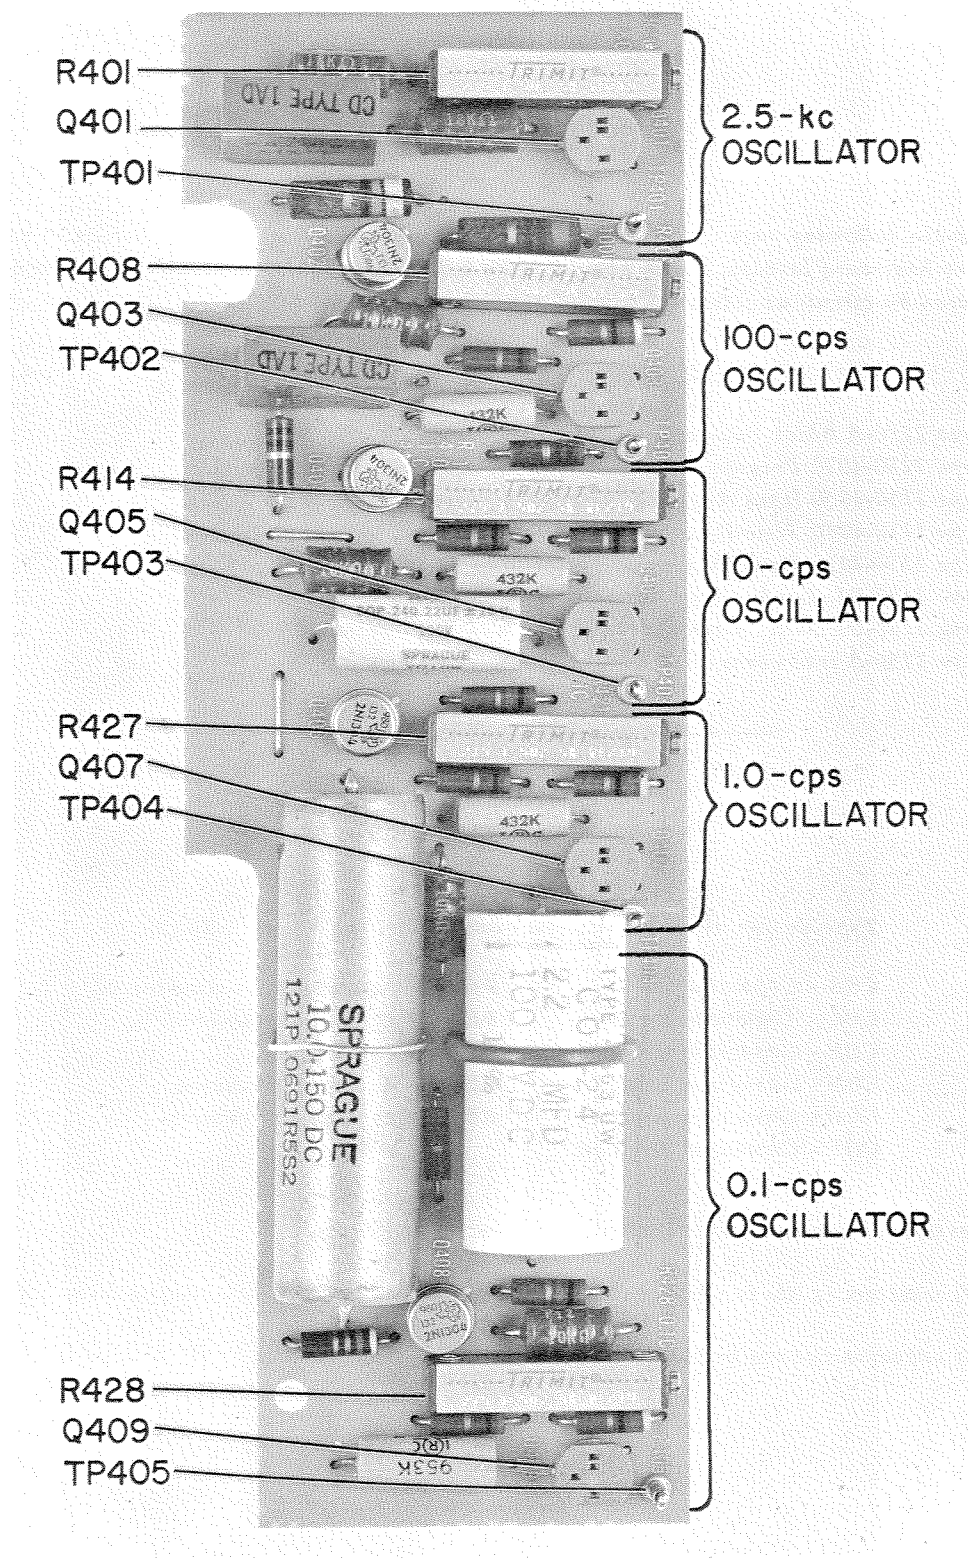

Figure 4-1. Time-base divider etched board used in the Digital Frequency Meter.
**4.3.4 ALIGNMENT OF THE TIME-BASE DIVIDER BOARD.** The time-base divider board (Type 1150-4040) consists of five RC oscillators, which are locked to each other in chain fashion and which divide the 100-kc crystal-oscillator signal for the 10-, 1-, and 0.1-cps outputs. The oscillators are carefully aligned at the factory and should not be adjusted unless there is a positive indication of error in division ratio. An error in oscillator alignment will be indicated by an incorrect reading when the Type 1150-A is operated with the CHECK switch in the position further out from the panel. The adjusting potentiometer and unijunction transistor associated with each oscillator are listed in Table 4-1 and identified in Figure 4-1. In Figure 4-1 the transistors have been removed from their sockets.